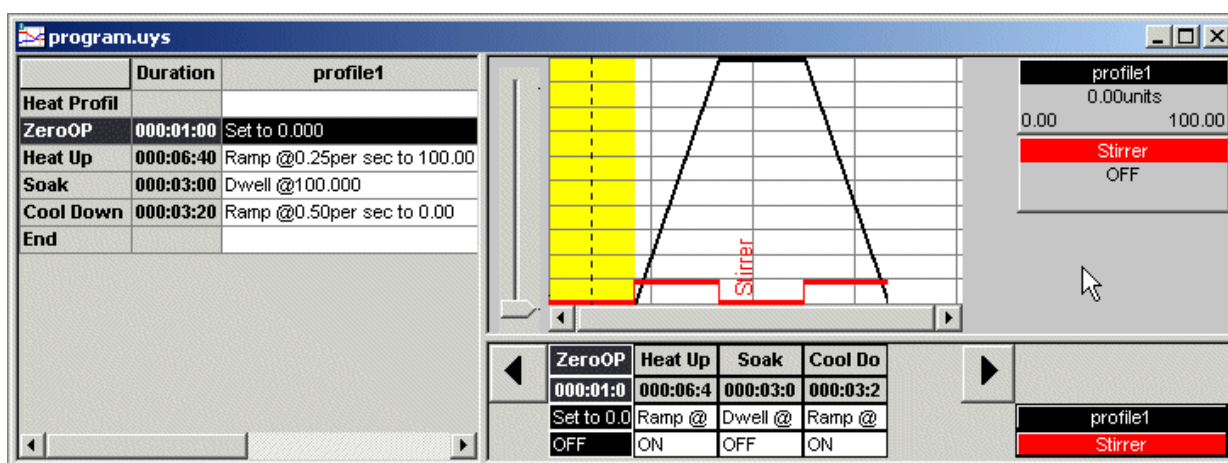

Figure 3-5 The completed 'Heat Profile' setpoint program
- 15 Save the setpoint file by clicking **File > Save** (or the **Save File** icon in the tool bar). Your completed setpoint file window should resemble Figure 3-5.